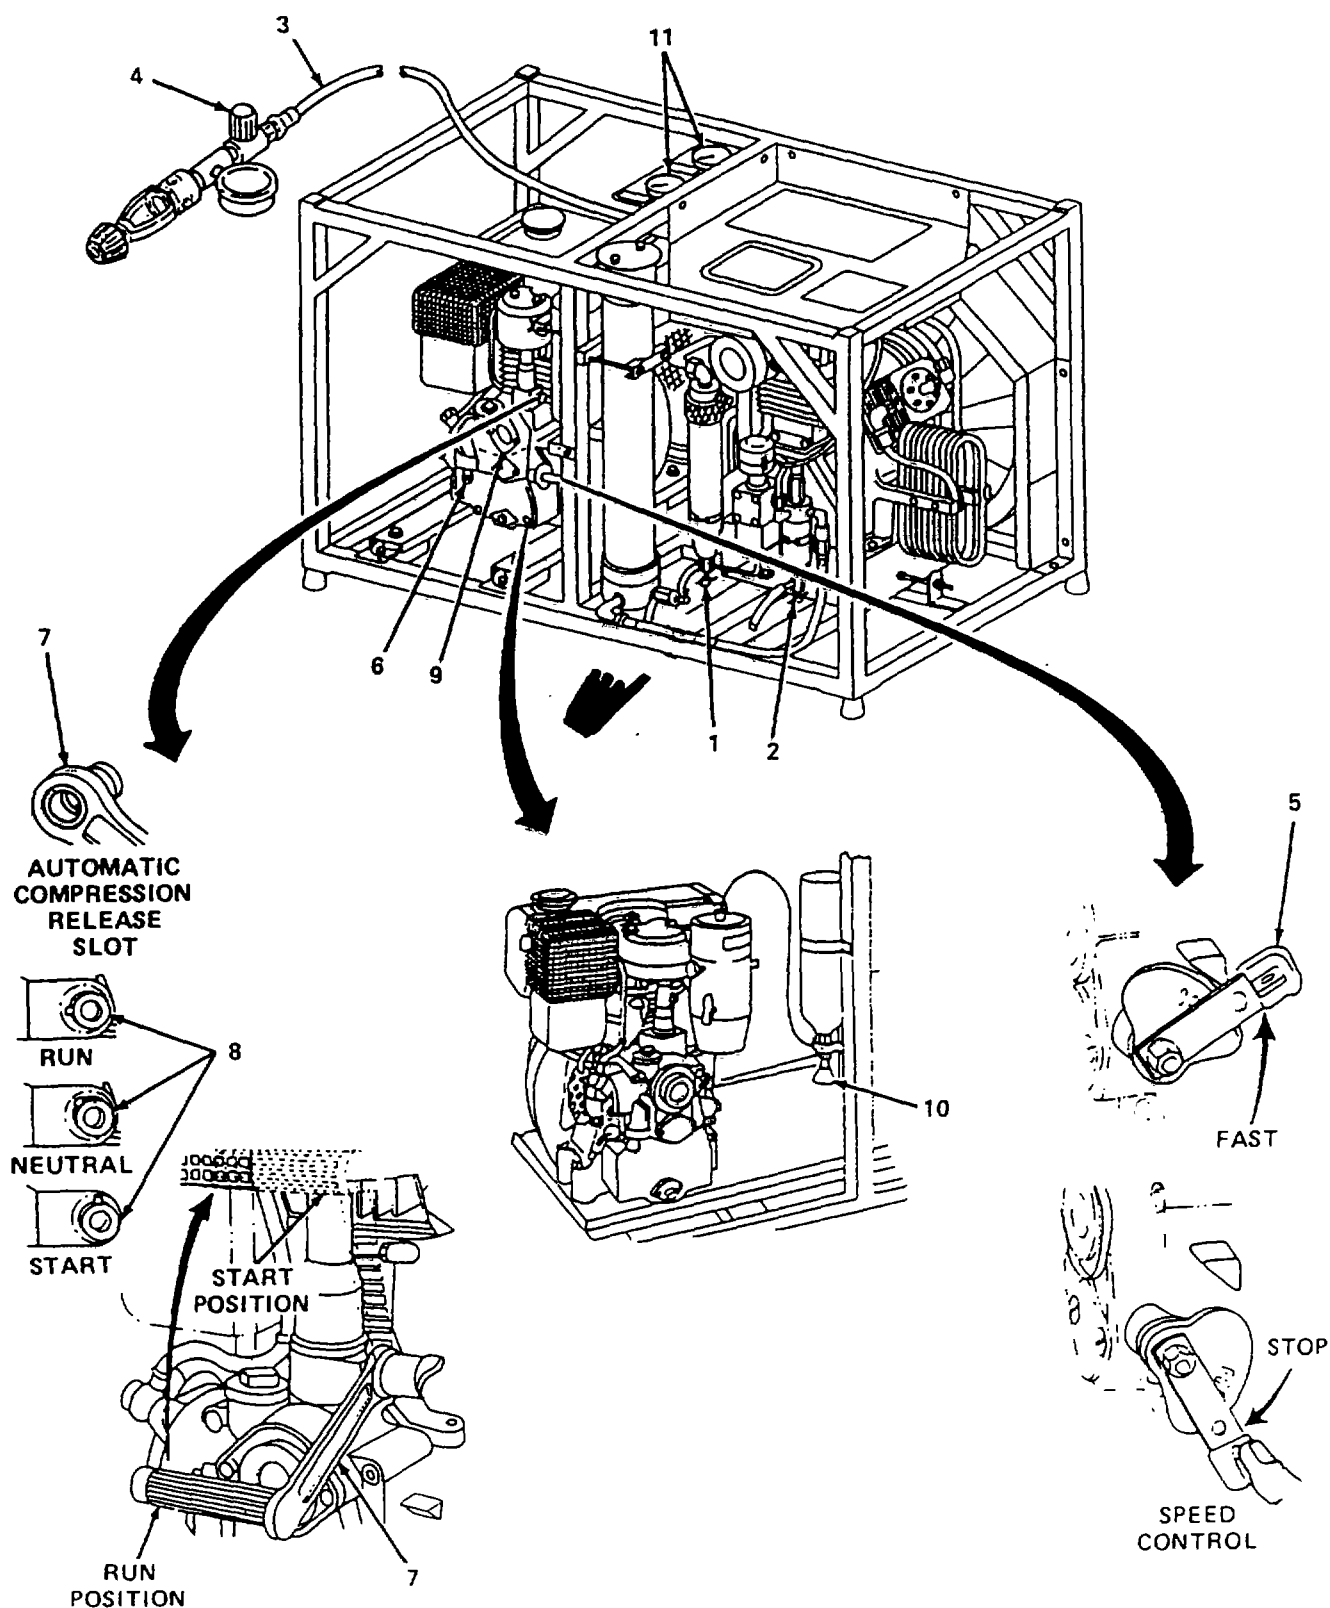

Figure 2-4. Starting Procedures
b. Start Up. (figure 2-4)
- (1) Open separator drain valves (1) and (2).
- (2) Connect an air tank charging whip assembly (3) and close fill valve (4).
- (3) Move speed control lever (5) to FAST position.
- (4) Pull cold start primer (6).
- (5) Use hand crank (7) to rotate automatic compression release (8) clockwise two positions to the START position.